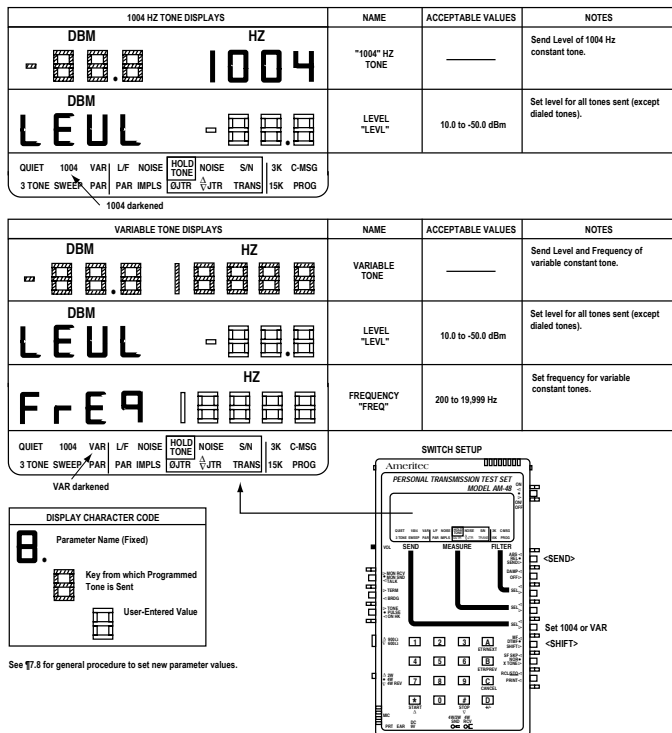

Figure 7-2. Parameter Settings from 1004 Hz and VAR Tone Send Displays
1. See Figure 7-2. Set switches per the SWITCH SETUP illustration, and set the SEND cursor per the lower menu illustration.